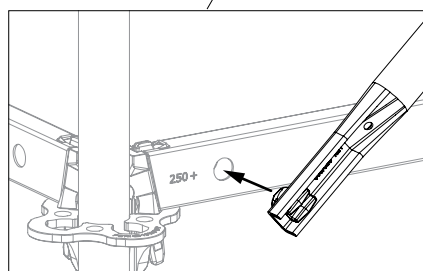

Fig. A1.07c
1. Insert Ledger Brace UBL (11) with the lower finger in the bottom Ledger UH (3). (Fig. A1.07c + A1.07d)